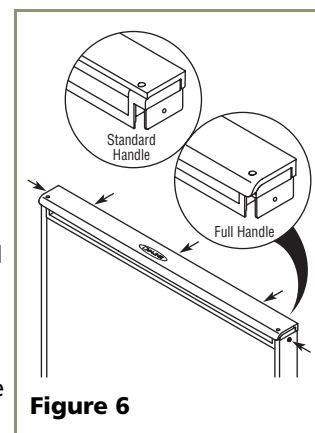

Figure 6
3. Remove and save the two outside screws and the lower handle (see **Figure 6**).